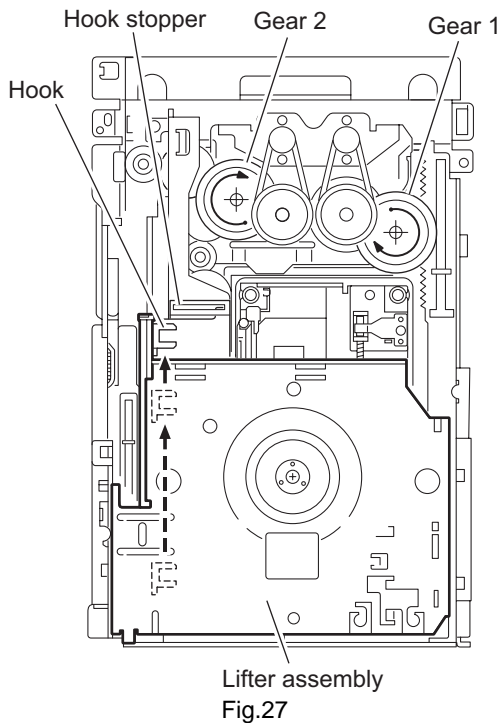

Fig.27
3.2.13 Removing the lifter assembly (See Figs.27 to 31)
- Prior to performing the following procedures, remove the tray assemblies, DVD servo board, side (L) assembly and side (R) assembly.
- (1) From the topside of the DVD changer mechanism assembly, turn the gear 1 clockwise to move the lifter assembly upward. (See Figs.27 and 28.)
- (2) Turn the gear 2 clockwise to move the hook toward the front until it stops. (See Figs.27 and 28.)